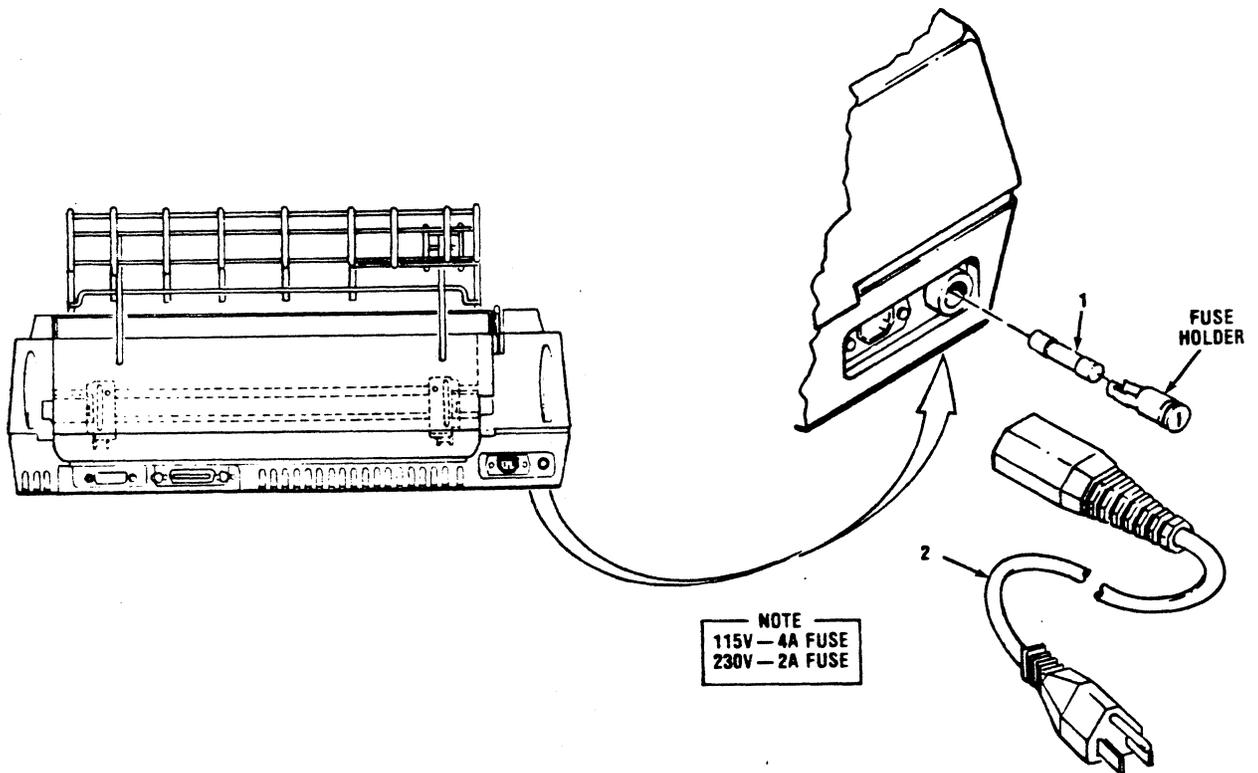

Figure 5-21. REMOVAL/REPLACEMENT, MAIN FUSE AND POWER CORD
The main fuse, item 1 of Figure 5-21, is located in the rear of the printer base and is removed using a slotted head screwdriver. To remove the fuse, refer to Figure 5-21 and perform the following steps:
NOTE: Ensure the same type rated fuse is installed when replacing the fuse, i.e. 120V ac - 4 amp fuse/220V ac -2 amp fuse. Refer to Figure 5-21.>
The eight foot long power cord, item 2 of Figure 5-21, is terminated on one end with a 3-prong grounded plug and terminated on the other end with a 3-prong receptacle. The cord is simply removed by removing the plug end from the external power source and the receptacle end from the printer. Refer to Figure 5-21.